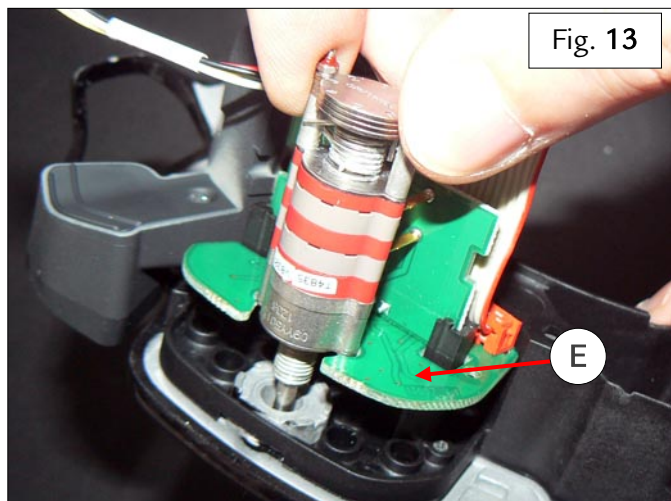

Fig. 13
- Remove the Manettino rotary selector (E) – Fig. 13.